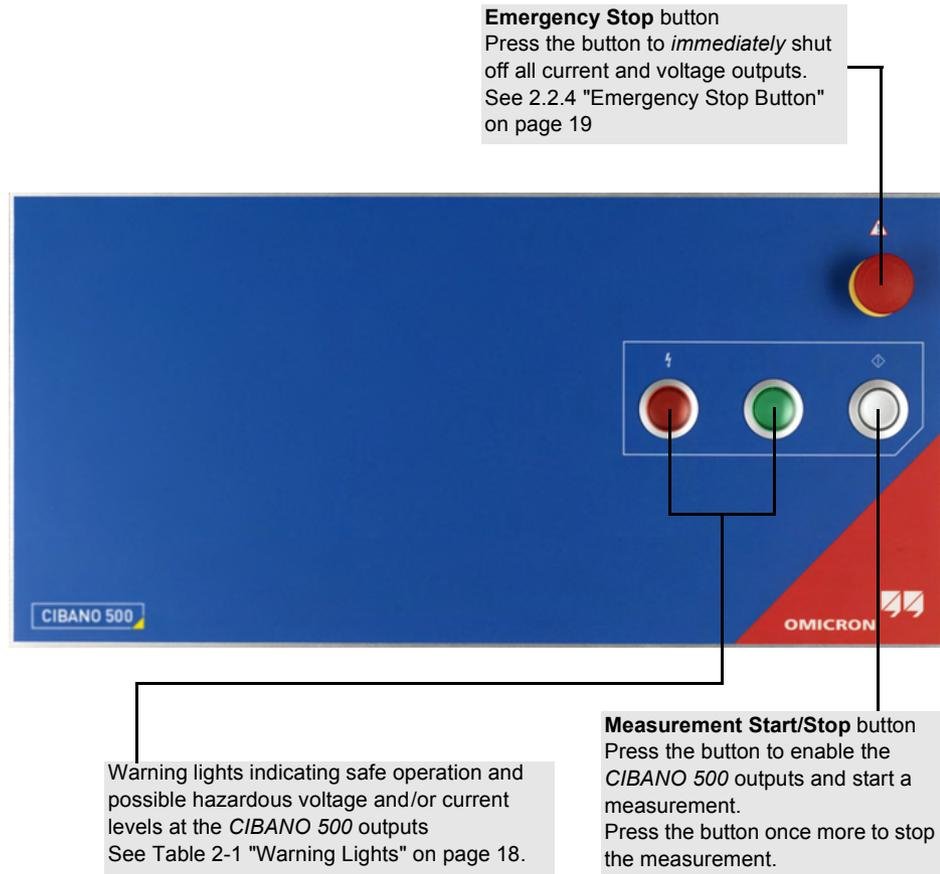

Figure 2-1 Front view of CIBANO 500
- Supply *CIBANO 500* only from a power outlet with protective earth (PE).
- The warning symbol on the side panel of *CIBANO 500* (see 2.2.2 "Side Panel" on page 16) indicates dangerous voltage on one of the *CIBANO 500* sockets, either from an internal source or from an external one, for example, from the station battery. If the green light on the front panel (see Figure 2-1 "Front view of CIBANO 500" on page 15) is on, no external voltage is applied (to be sure, disconnect all cables) and the warning symbol is flashing, *CIBANO 500* is defective. In this case, do not use *CIBANO 500* and contact your regional OMICRON Service Center.